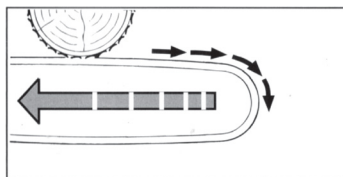

Fig. 4
- Use a screwdriver to adjust the tension adjustment bolt to a proper position, as shown in figure 4.